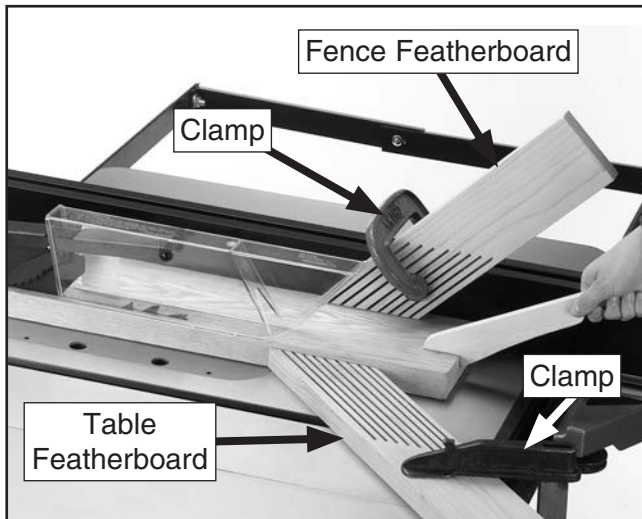

Figure 78. Example of featherboards secured with clamps.
3. Place a featherboard on table away from blade so all fingers point forward and contact workpiece (see **Figure 78**).